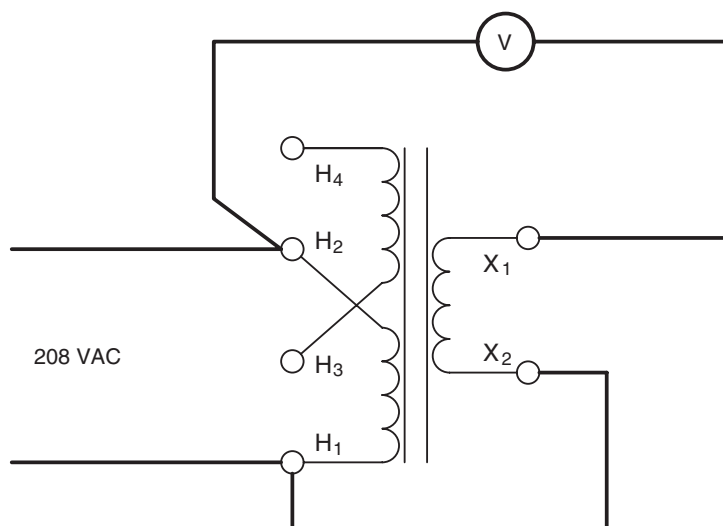

Figure 21-13 Connecting X_1 and H_2 .
13. Reconnect the transformer as shown in Figure 21-13 by connecting X_2 to H_1 . Connect an AC voltmeter across terminals X_1 and H_2 .